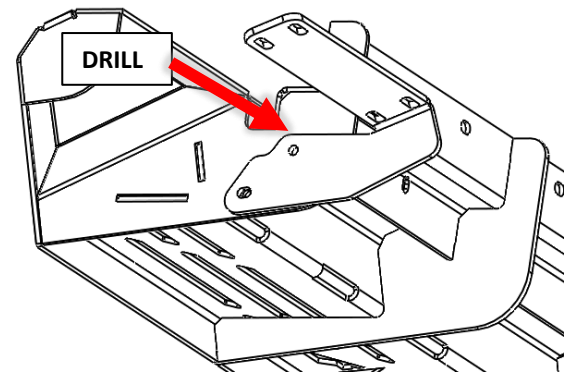

Figure 11: Drilled Hole to Lock Rotation of Step
- Once the 90 degree bracket is bolted firmly onto the van, drill the second hole into the rear shroud bracing to permanently lock the rotation (Figure 11). Use a 1/4" drill bit and 1/4"-20 hardware to fasten together.